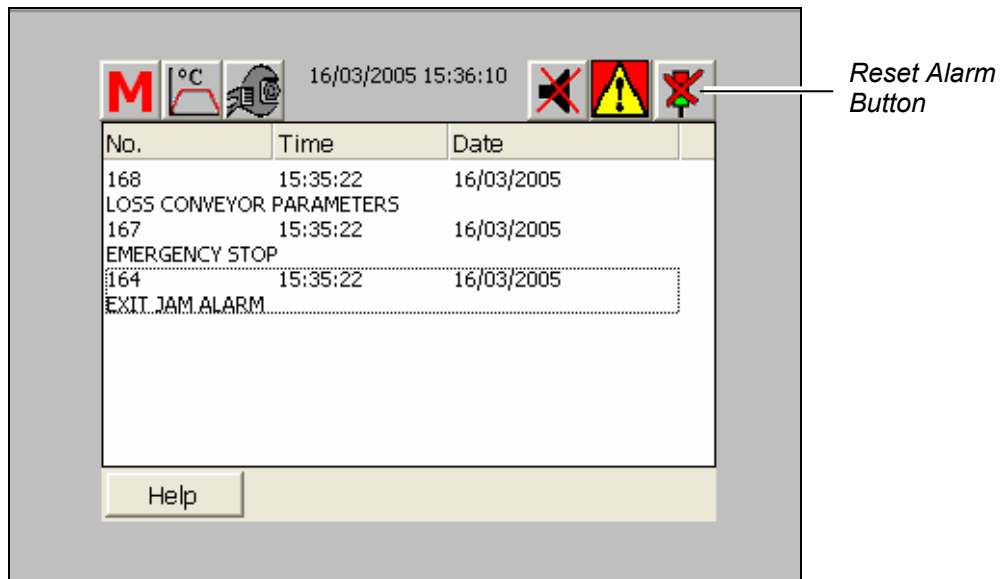

Figure 6-51 Alarm Page Screen
- The Alarm Page screen is displayed. Reset all alarms by clicking on the **Reset Alarm** button (Figure 6-51).